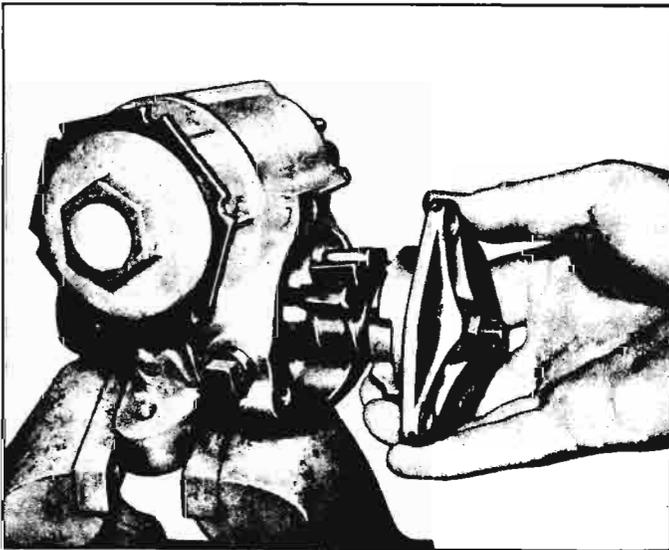

Fig. 4-12—Removing Pitman Shaft
4. Pull the side cover, with the pitman shaft, from the housing (fig. 4-12).